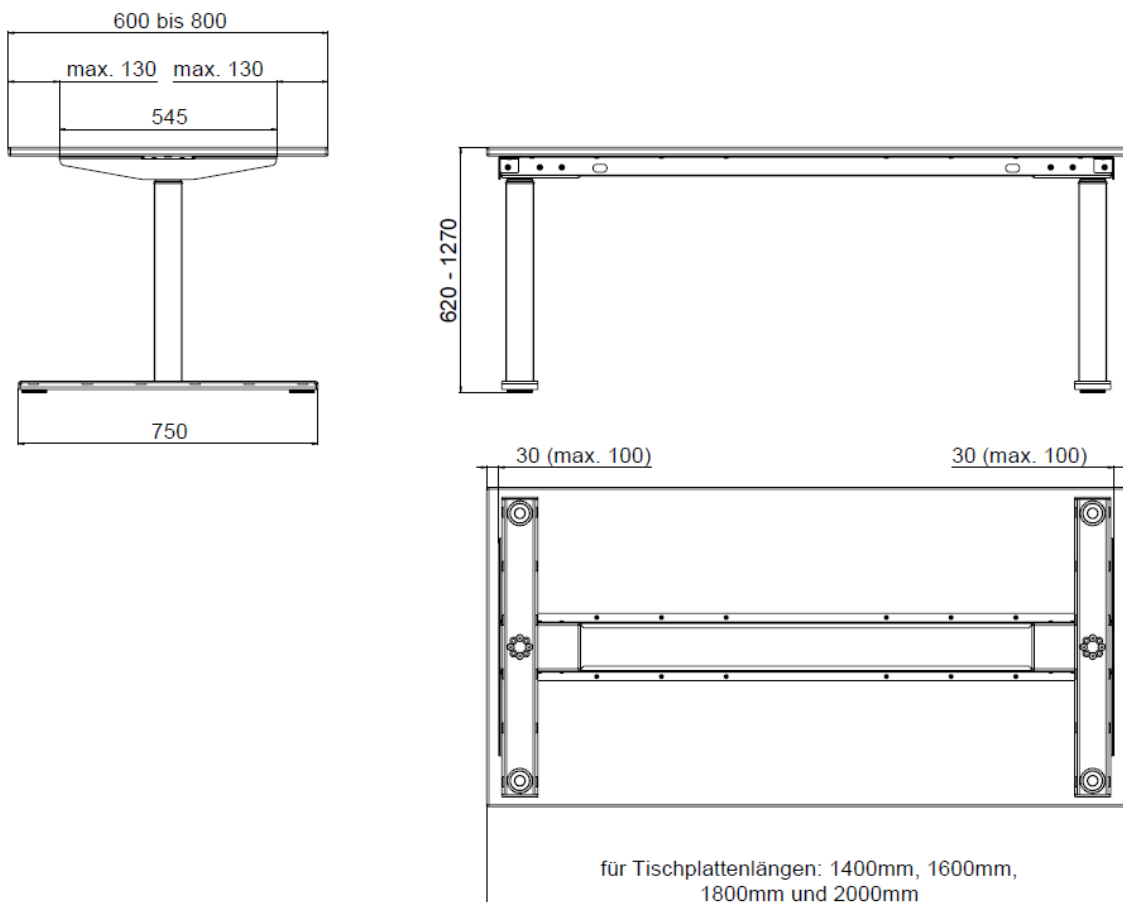

Figure 22 Alignment of the lifting column system with the table top
- The table top should not protrude more than 100 mm on each side over the lifting column system, see figure 22